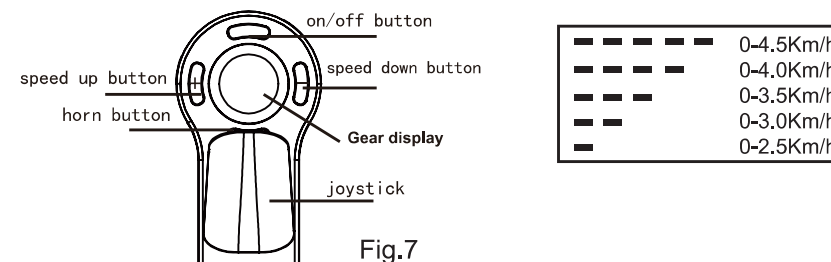

Fig.7
6.1.1 All the electric components to control the wheelchair are integrated to the joystick, including ON/OFF switch; speed light; battery gauge; speed light; speed down button; speed up button; joystick. You can implement all the operations of this wheelchair the above buttons. (fig7)